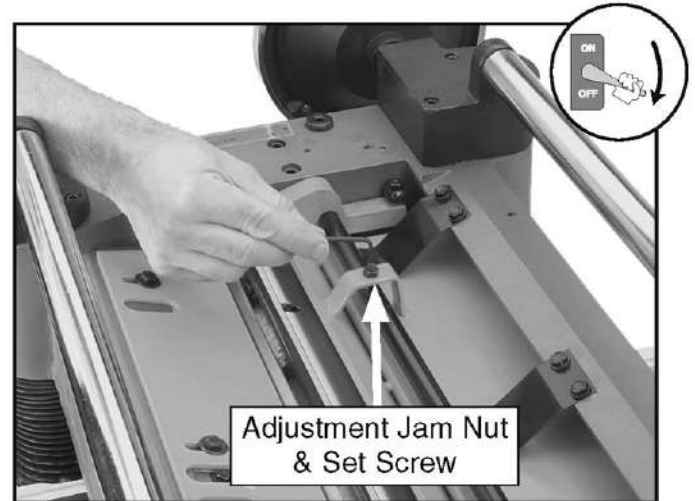

Figure 39. Example of adjusting the chip breaker height.
11. Use the same zero reference on the Rotacator dial from **Step 5**, perform similar steps as described above to adjust the height of the chip breaker to its recommended specification given at the beginning of this subsection. The adjustment controls are shown in **Figure 39**.